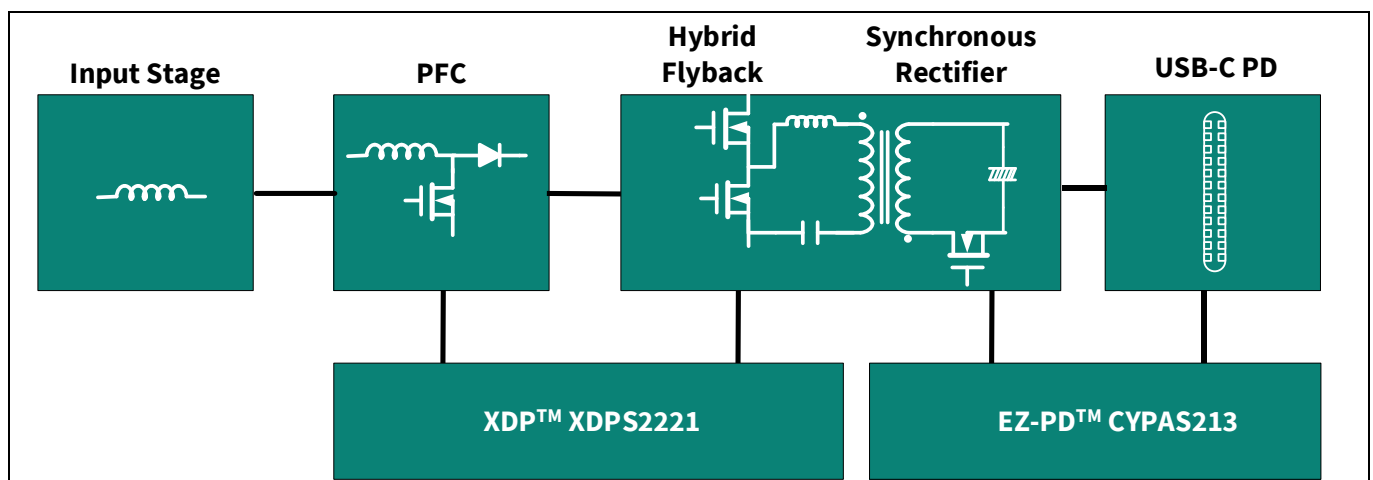

Figure 1 High-level block diagram of a USB PD adapter
As portable electronic devices such as smartphones, tablets, and laptops require faster charging, the Power Delivery (PD) technology is designed to provide the fastest charging possible through a USB Type-C (USB-C) cable. The REF_140W_HFB_PAG2S board delivers power up to 140 W with the help of USB PD Standard Power Range (SPR) and EPR standards through a USB-C connector. In addition, this board provides a single USB-C port (see Figure 1) on the universal AC-DC adapters that can charge a wide range of devices, such as smartphones, gaming laptops, and power tools.
Figure 1 shows a high-level block diagram of the XDPS2221 and EZ-PD™ CYPAS213 adapter and charger solutions. The front-end AC-DC converter produces the required output voltage while ensuring the PFC at the front-end for requesting power level. On the other hand, the USB-C PD controller ensures that the defined USB-C PD specifications and performance are achieved.